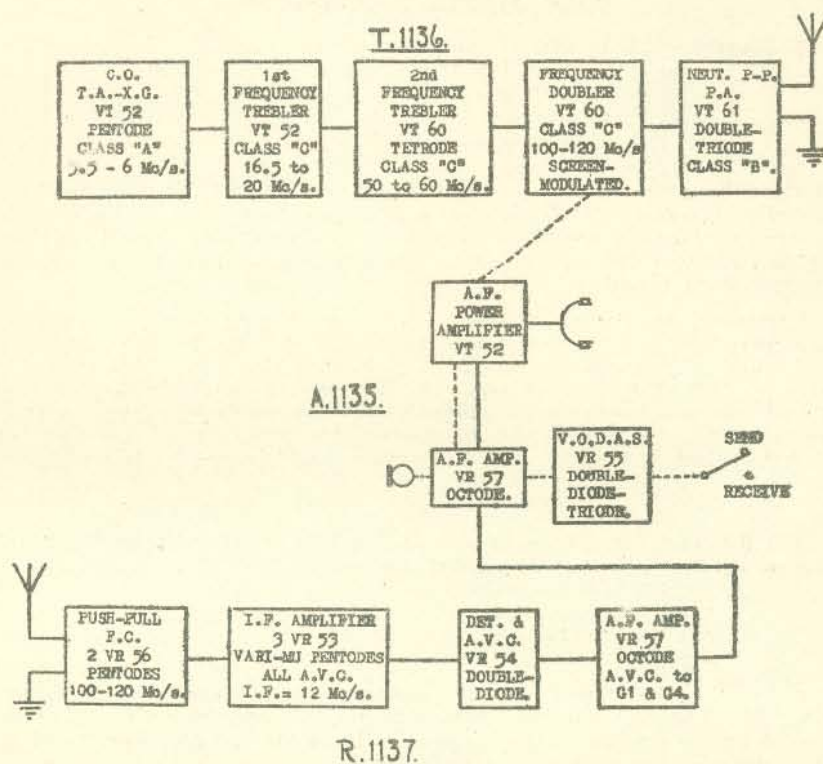

FIG. 80.—Block diagram, T.R.1133.
2. **T.R.1133.**—The general lay-out of T.R.1133 is shown in the schematic diagram fig. 80. It is further divided into :—
(i) *The T.1136*, a crystal-controlled transmitter employing the valves shown in fig. 80. The C.O. has four crystals between 5,555 and 6,666 kc/s, each selected by the controller when required. There are two frequency trebling stages, bringing the frequency up to 50–60 Mc/s.
(ii) *The R.1137* is a superheterodyne receiver employing the valves shown in fig. 80. It has a push-pull oscillating detector for frequency changer, employing pentode V.R.56's with screens used as oscillator anodes, and carrying a 12 Mc/s I.F. transformer in their anode circuits proper. Aerial and oscillator circuits are tuned, frequency being selected by the controller. The oscillator frequency is stabilised by a special type of condenser.